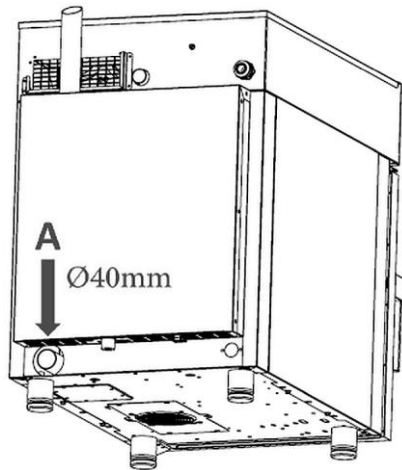

Fig. 5
- The connection (A, Fig. 5) is located at the back of the appliance, and features 40 mm diameter.